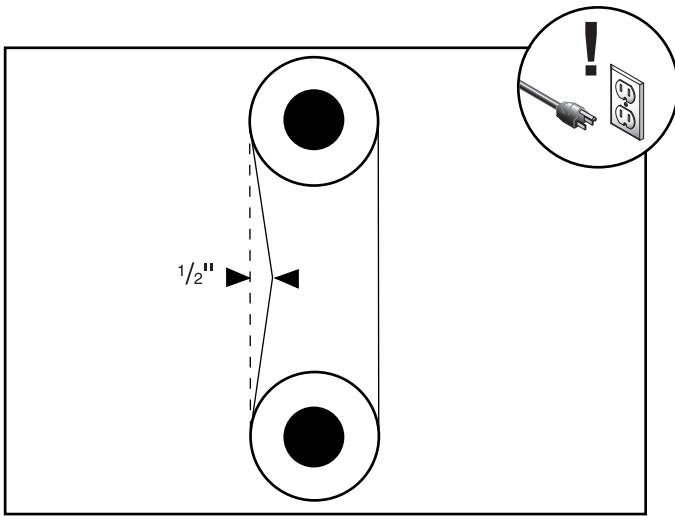

Figure 39. V-belt deflection.
3. Note the amount of deflection. Deflection should be approximately ½", similar to **Figure 39**.